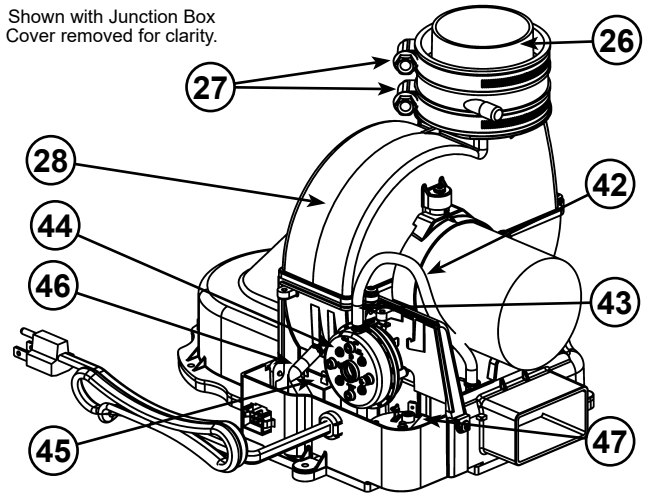

Figure 62.
- 26 \*\*\*\*Rubber Coupling (see Figure 5) (see also Figure 62)
- 27 Gear Clamp (see Figure 5) (see also Figure 62)
- 28 \*\*\*Blower with Power Cord (see Figure 5) (see also Figure 62)
- 42 Air Tubing (Intake) (see Figure 5) (see also Figure 62)
- 43 Blower High Limit Switch (see Figure 5) (see also Figure 62)
- 44 Intake Air Pressure Switch (NC) (inside box) (see Figure 5) (see also Figure 62)
- 45 Capacitor (see Figure 5) (see also Figure 62)
- 46 Air Tubing (Exhaust) (see Figure 5) (see also Figure 62)
- 47 Exhaust Air Pressure Switch (NO) (inside box) (see Figure 5) (see also Figure 62)